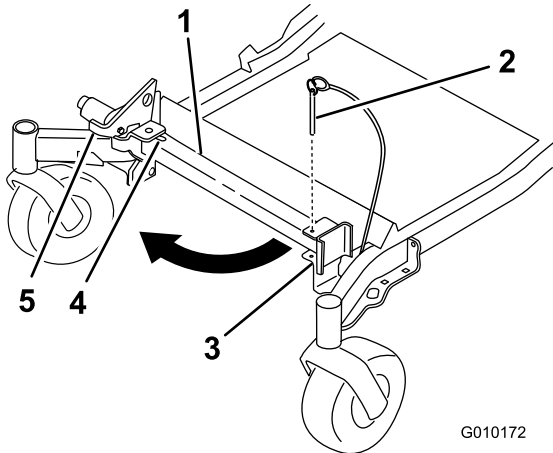
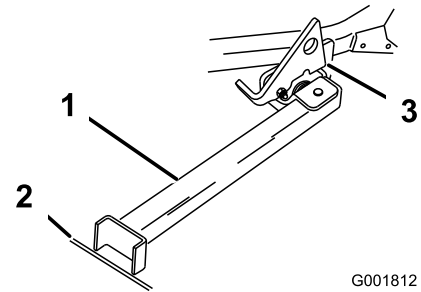

Figure 31
Figure 32
2. Remove the bracket pin (Figure 31).
3. Raise the latch. Swing the stand foot out front and slide stand toward machine, into the bottom of slot (Figure 31 and Figure 32).
4. Set the foot of stand on the ground and rest the latch on the pivot tab (Figure 32).
- Note:** For best results, place the foot of stand into seams in sidewalks or into the turf (Figure 32).
6. Drive onto the stand. Stop when the latch drops over the tab into the locked position (Figure 32). Once onto the stand, engage the parking brake and turn off the engine.
5. Return the stand to its rest position (Figure 31).